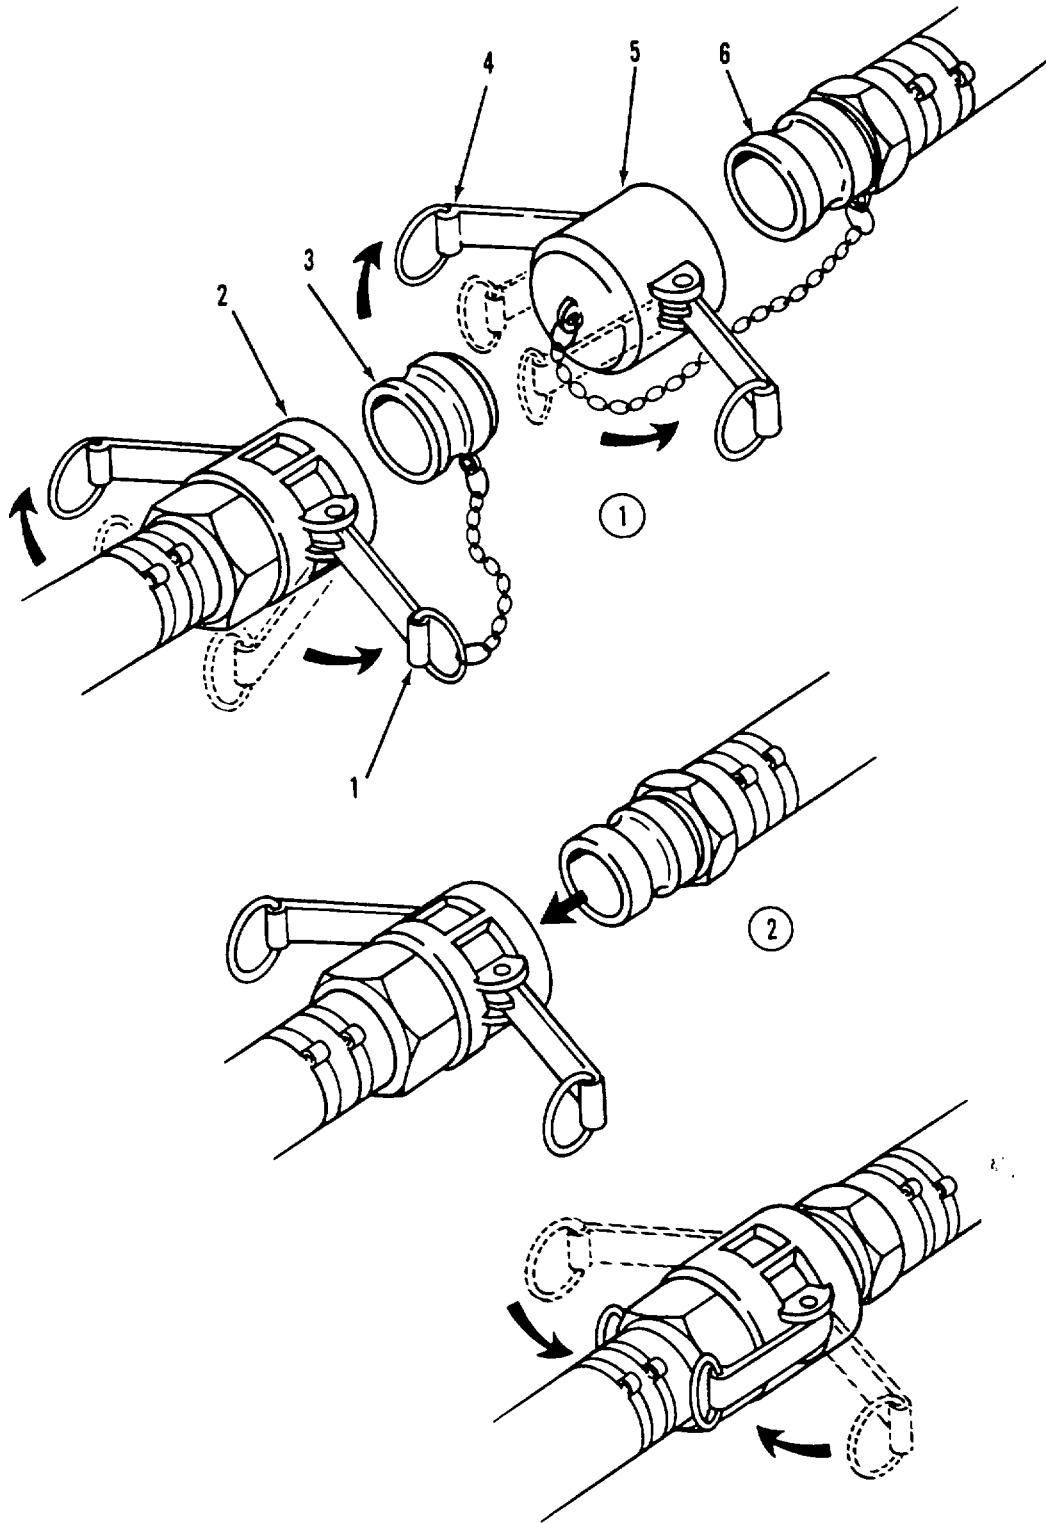

Figure 2-7. Quick Disconnect Couplings.
- (1) Open twelve tricon containers. Refer to TM55-8145-200-13&P.
- (2) Unpack contents of each container. To aid assembly, separate components into groups of similar parts during removal. For example, group all the 4-inch discharge hoses together, then all the 4-inch gate valves, 2-inch discharge hoses and so on until all components are unpacked.
- (3) Unpack Hypochlorination unit. Refer to the applicable TM.
- (4) Unpack 125 GPM pumps. Refer to the applicable TM.
- (5) Unpack 350 GPM pumps. Refer to the applicable TM.
c. Quick Disconnect Couplings. Refer to figure 2-7.